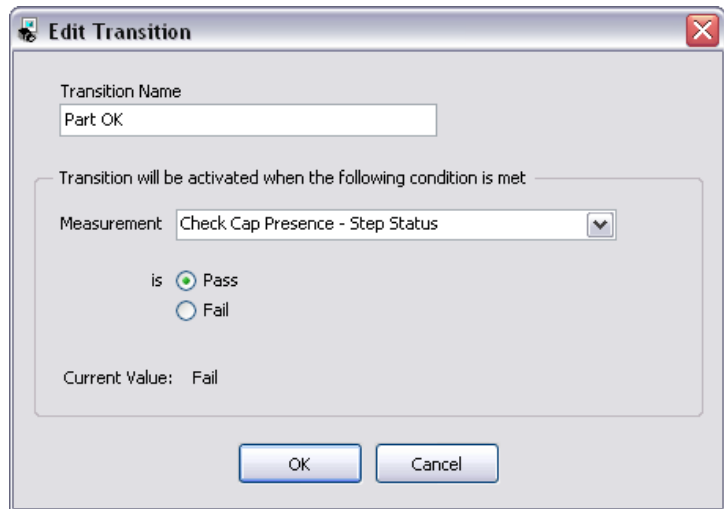

Figure 6-11. Configuring the Part OK Transition
- In the Edit Transition dialog box, modify the controls to transition when **Check Cap Presence - Step Status** is **Pass**, as shown in Figure 6-11.